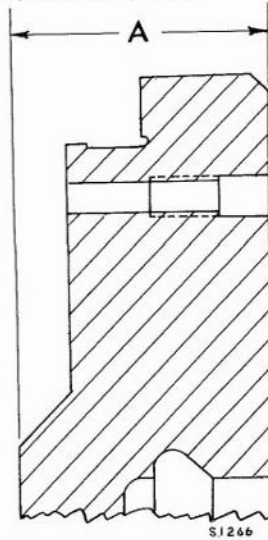

Fig. B.52. Flywheel re-grinding dimension
1. Examine the friction face on the flywheel. If this is badly scored the face must be re-ground to restore the original smooth finish, but only until original marks are removed. When carrying out this operation the whole of the flywheel face must be re-ground and not the friction area only. Reference must be made to Fig. B.52 whilst carrying out this re-grinding operation, for the minimum thickness on the flywheel of 1.75 in. (44.45 mm.) must not be exceeded. Reinstatement the T.D.C. marking on the flywheel friction face as shown in Fig. B.53, if obliterated during re-grinding operations.